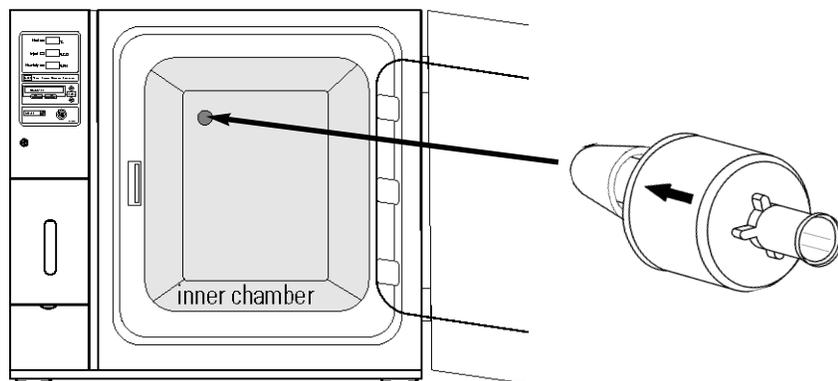

Figure 1-10. Access Port Installation
- Install the the stopper assembly into the opening inside the chamber. See Figure 1-10. Make sure the arrow on the filter is pointing toward the back wall of the chamber.